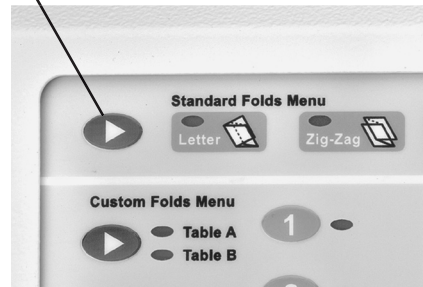

Fig. 13
3. Select the fold type from the "Standard Fold Menu" (Fig.13). If a custom fold is being used select fold from the Custom fold Menu (see pg 9 to set a custom fold.)